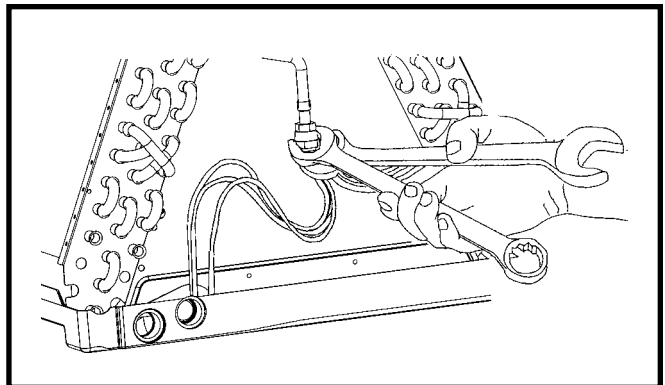

Figure 5. Loosening of Nut & Distributor Body
5. Using two wrenches, loosen the nut and distributor body as shown in Figure 5. Turn the assembly nut counter-clock-wise until the orifice body halves are separated.